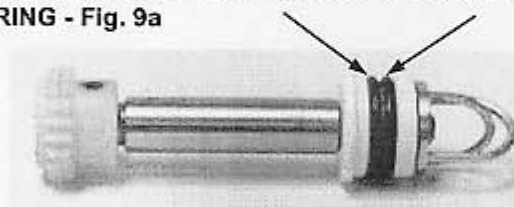

Fig. 9a
6. Remove the spinner drive assembly (Fig. 9a) from the mixing block by grasping the drive shaft and with a twisting motion pull the drive assembly away from the mixing block. Pull the gasket from the top of the mixing block.
**NEVER LUBRICATE THE TWO O-RINGS ON THE BEARING - Fig. 9a**